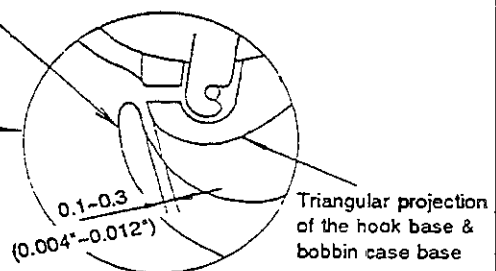

Fig. 4
<p>2) Adjusting the clearance between the opener and the projection of the bobbin case</p> <ol style="list-style-type: none"> 1. Turn the handwheel to move the opener in the direction of arrow ❶. Then, loosen opener attaching screw ❷. (Fig. 4) 2. Turn the handwheel to move the opener in the direction of arrow ❷. Then, loosen opener attaching screw ❸. At this time, be sure to loosen the screw with the opener positioned at its back end. (Fig. 4) 3. Turn the bobbin case in the direction of arrow ❸ until the bobbin case positioning finger against the bobbin case resting section of the throat plate. (Fig. 4) 4. Move the opener to adjust so that a clearance of 0.1 to 0.3 mm (0.004" to 0.012") is provided between the opener and the triangular projection of the bobbin case. (Fig. 4) 5. Tighten opener attaching screw ❸. 6. Turn the handwheel to move the opener in the direction of arrow ❶. Then tighten opener attaching screw ❷. (Fig. 4) 	<p>☆ If the clearance provided between the opener and the protruding section of the bobbin case is too large:</p> <ul style="list-style-type: none"> • Loose stitches may result. <p>☆ If the clearance provided between the opener and the protruding section of the bobbin case is too small:</p> <ul style="list-style-type: none"> • The bobbin case may break.
(11) Presser lifting unit (Manual type)